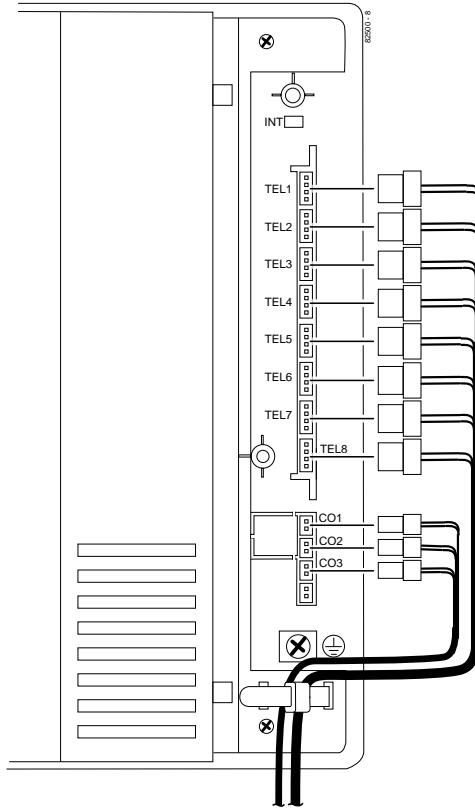

Figure 3-2 SECURING THE CABLES
4. After you have punched down your cables, secure them with the cable holder located on the right-hand side of the KSU (Figure 3-2).